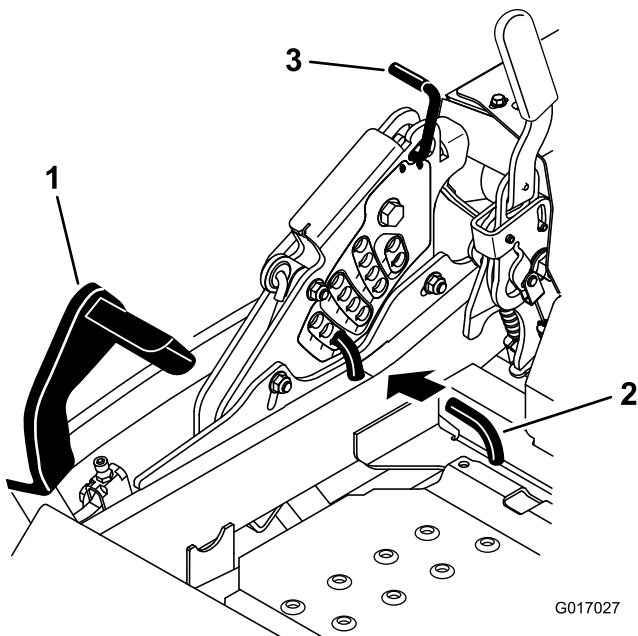

Figure 88
5. Push the deck lift pedal all the way forward and the deck will latch at the 5 1/2 inch (14 cm) transport position (Figure 88).